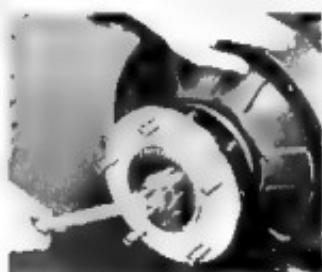

Fig. 48—Adjusting Front Wheel Bearings
2. Using an 8" wrench (never larger) and applying a steady force with one hand, pull the adjusting nut up tight while rotating the drum to make sure all parts are correctly seated (fig 48).